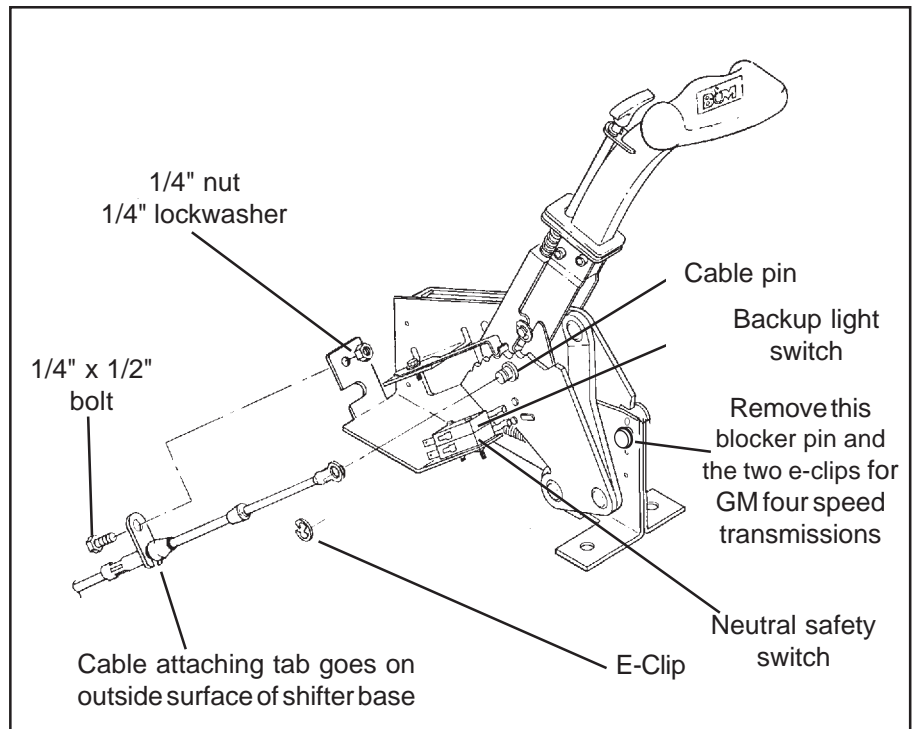

Figure 2
NOTE: If you are installing this shifter with a GM four speed automatic transmission you must remove the blocker pin and the two e-clips indicated in **Figures 2 and 3**. Removing this blocker pin gives the shifter four forward positions rather than three. Do **not** remove the blocker pin and the two e-clips for three speed automatic transmissions.
STEP 4. Assemble the neutral safety and reverse light switches to the bracket using two #4-40 x 1-1/4" screws, two 4-40 lockwashers, and two 4-40 hex nuts, as shown in **Figure 2**. Beware, over tightening the switch attachment screws will crack the switch housings. To adjust the switches loosen the screws and slide the switches in or out as required, then re-tighten the screws.
STEP 5. Install the cable on the shifter as shown in **Figure 2**. The cable attachment tab should be bolted to the outside surface of the shifter base using a 1/4-20 x 3/4" hex screw, 1/4" lockwasher, and 1/4-20 hex nut. Install the large e-clip that secures the cable to the cable pin.
STEP 13. Disconnect the battery ground cable before beginning to wire the neutral start and reverse light switches. Locate and identify the neutral start and reverse light wires on the stock neutral start/backup light switch (usually on the steering column or on the stock shifter). Cut the wires from switch then strip 1/4" of insulation off the wires and install the slip-on terminals supplied in the kit. Crimp the terminals onto the wires using a crimping tool or pliers. Connect the neutral start wires to the LOWER switch and the reverse light wires to the UPPER switch (See Figure 2). Tape the terminal connections to prevent shorts. Reconnect the battery ground cable, disconnect the coil wire and set the parking brake. Check the switch operation by attempting to start the motor in each shifter position. **The starter must crank only when the shifter is in the Park or Neutral position.** Check the reverse light operation. Adjust the switches if required. Reconnect the coil wire.